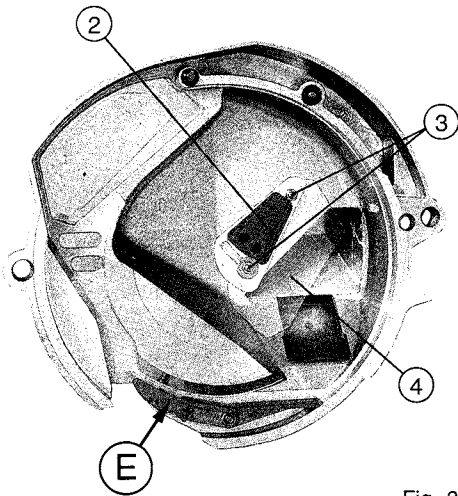

Fig. 34
- 1- High position (fig. 34) For Large Seeds such as corn, soybean, edible beans, peanuts* cotton, etc.